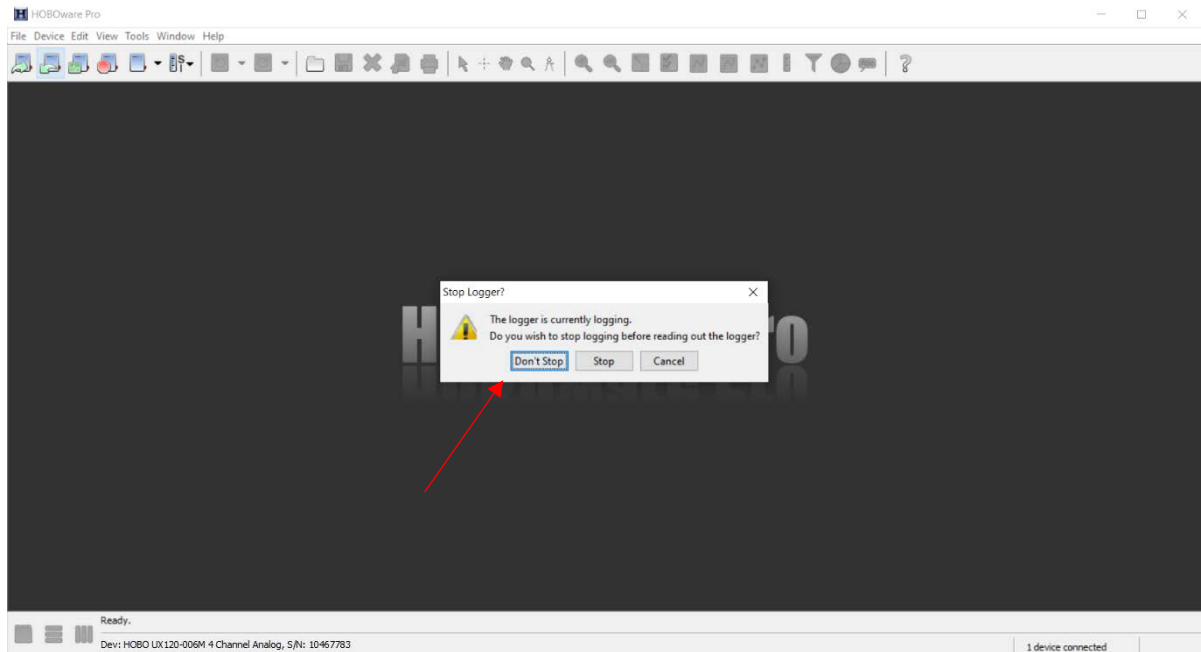

Figure A.9.18: The “Stop Logger?” pop-up window.
14. The “Stop Logger?” pop-up window will appear asking if you want to stop logging as shown on Figure A.9.18, click **“Don’t Stop”**.